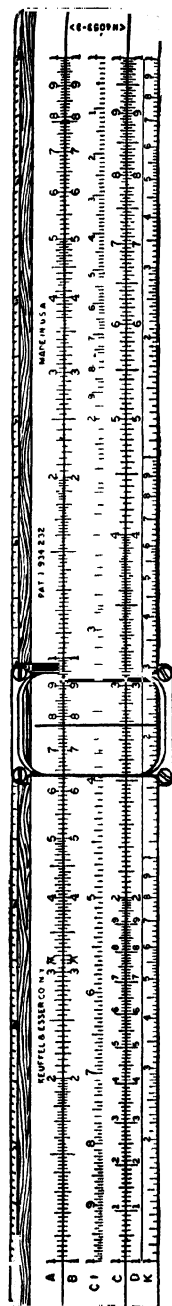

FIG. 279. MANNHEIM SLIDE RULE
Most engineering problems require numerical calculations and the slide rule is commonly used for making these calculations. It is an instrument with which you can multiply and divide quickly and accurately; with which you can find a power or root of a number easily; and with which you can find the sine, cosine, or tangent of an angle or the logarithm of a number in less time than you can look it up in a set of tables. The engineer's slide rule is usually straight and consists of three parts as shown in Fig. 279. There is the *frame* or stock; the movable part in the center which is called the *slide*; and the glass or *runner*. The runner has a central vertical line called the *hairline*. This line is used for locating a number on the slide rule. Each row of marks on the slide rule is called a *scale*. *What it is*
About 1850, Amédée Mannheim, a French artillery officer and later Professor of Mathematics at L'École Polytechnique in Paris, designed the slide rule which bears his name, and which, with some additions, is still in wide use. One improved version is the Polyphase slide rule, a trade name for the standard Keuffel & Esser Company rule. The front of this slide rule is shown in Fig. 279. There are three scales on the front of the stock (the A, D, and K scales), and three on the front of the slide (the B, CI, and C scales). The slide is thinner than the stock and has three scales on the back (the S, L, and T scales), which are ordinarily used by turning the entire slide rule over and pulling the slide to the right.
A scale is a row of marks on the slide rule and each scale is designated by the letter at its end. For instance, notice the A scale on the top of the stock in Fig. 279. There are three general types of scales on the Mannheim slide rule. They are:
3. The equal-parts scale, which is on the back of the slide (L).
The C scale is representative of all logarithmic scales so it can be used as a model for explanation. The distance from the left end of this scale to the position occupied by a number represents the *mantissa* of the common logarithm of the number. Since this is so, the location of a number on the C scale depends only upon the sequence of numerals in the number and not upon the position of the decimal point in the number. Hence, you can disregard any zeros at the beginning or end of a number. For example, the numbers 0.0278, 27.80, and 27,800 all occupy the same position on the C scale and, therefore, you can think of each as 278 for the purpose of locating it. Then just locate the number as you would on an engineer's scale (decimal system) used for measuring. The runner is set at this number (278) on the C scale in Fig. 279.